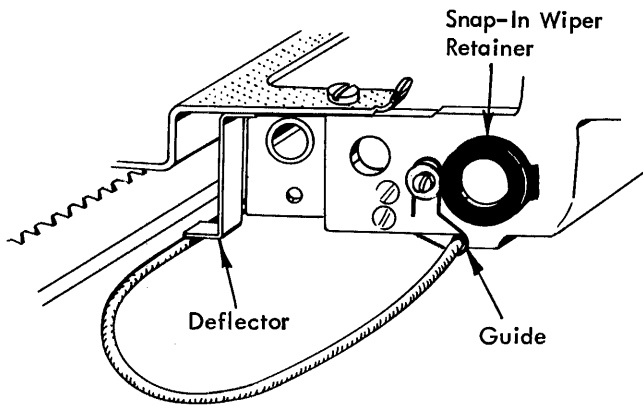

FIGURE 142.7 Carrier Cable Guide
- b. Carrier Cable Guide - Position the cable guide horizontal and as high as possible without binding the cable against the carrier (Fig. 142.7). This adjustment holds the cable up as high as possible yet allows it to slide freely front and rear as the carrier moves along the writing line.
- c. Carrier Cable Deflector - Form the deflector front or rear to prevent the cable from getting behind the carrier (Fig. 142.7). Check along the entire writing line to make certain that the deflector does not rub on the powerframe.